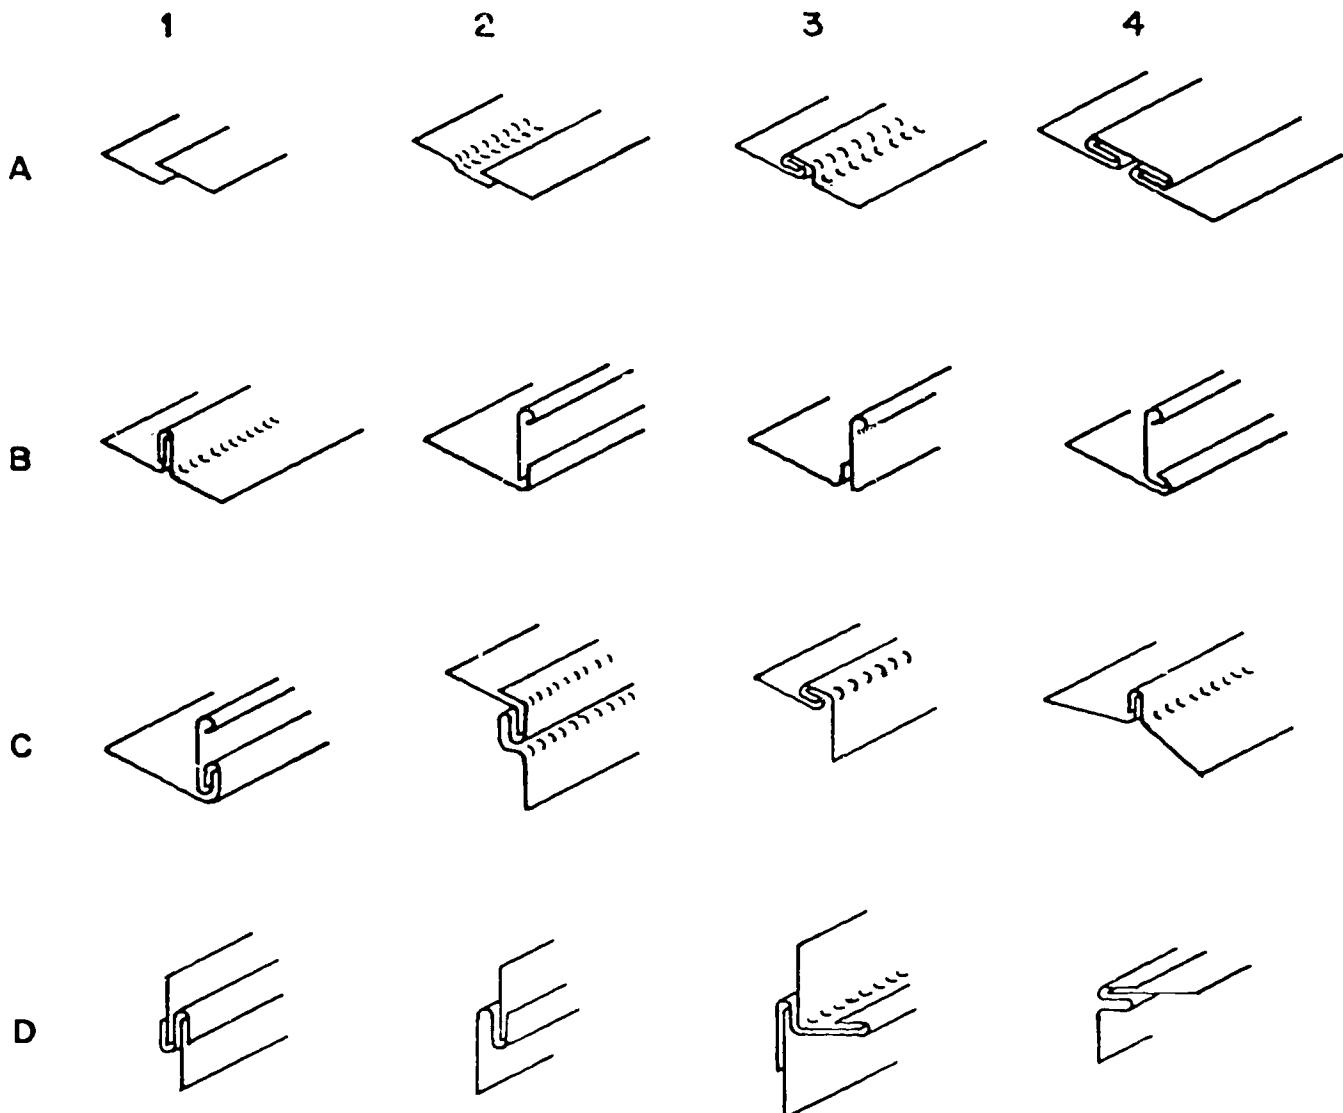

Figure 2-1. Sheet metal seams.
The next several seams are shown in figure 2-1 and will be referred to by a letter and number.
**Inside and outside corner lap seams.** Inside corner lap seams and outside corner lap seams, such as those illustrated in B-2,3, (fig. 2-1), are used on any gage of
**Standing Seam.** Standing seams are used in several different ways in fabricating sheet metal components. In B-1 and C-4 (fig. 2-1 two views show you how the two parts are assembled. B-1 shows the seam on a flat surface and C-4 shows it on an angle (Roof Ridge). Although used primarily to join two pieces of sheet metal, the standing seam also acts as a stiffener because the metal is folded three times. Standing seams are sometimes used to connect joints of rectangular duct, to stiffen the long joints across the top and bottom of long ducts, to install covers over the ends of ducts, and to connect the corners of exhaust hoods over kitchen stoves.
**Grooved Seam.** A grooved seam is shown in A-3 (fig. 2-1). Note how it resembles a standing seam that has been bent over and then shaped with a hand groover. One of the main uses for grooved seams in duct construction is to join the edges of round duct joints. Grooved seams are also used for joining sheets of metal roofing and for seams not located in the corners of rectangular ducts. In the following paragraphs we will describe how grooved seam allowances are determined and how the seams can be made with a Pittsburg lock-forming machine or with a bar folder and handtools.
**Pittsburg Lock Seam.** The Pittsburg lock seam, shown in C-2 (fig. 2-1), is most often used along one edge or corner of a rectangular duct and on all four sides of such fittings as transitions and elbows. The Pittsburg lock seam is made in two parts. The flanged edge is usually formed on a cornice brake or on a bar folder if the point is straight. However, if a rectangular-shaped
lower the top leaf to form a tighter 180° bend. The seam will need to be offset; do this by turning the metal over in the cornice brake and lowering the top leaf until a groove is formed. The final step in making the pocket side of the Pittsburg lock seam is to strike the folded metal with a mallet until the edges are parallel, as illustrated in the lower part of C-2 (fig. 2-1).